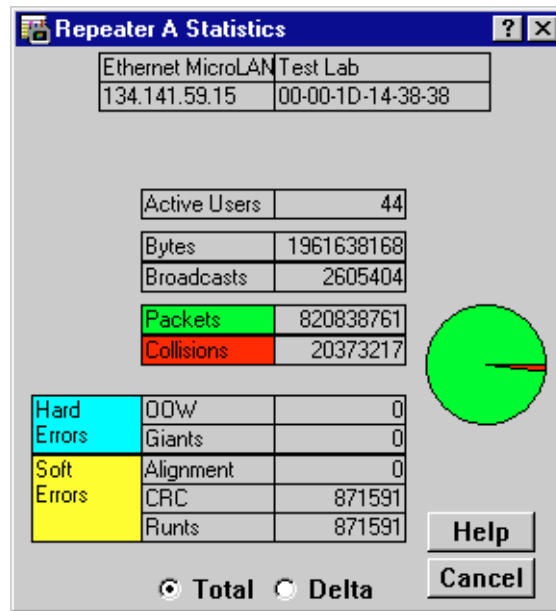

Figure 5-1. The Repeater Statistics Window
3. Click on **Statistics**. The Repeater Statistics window, Figure 5-1, opens.
The Module and Port Statistics windows are the same as the Statistics window displayed in Figure 5-1, except that they display statistics applicable to the module or port.